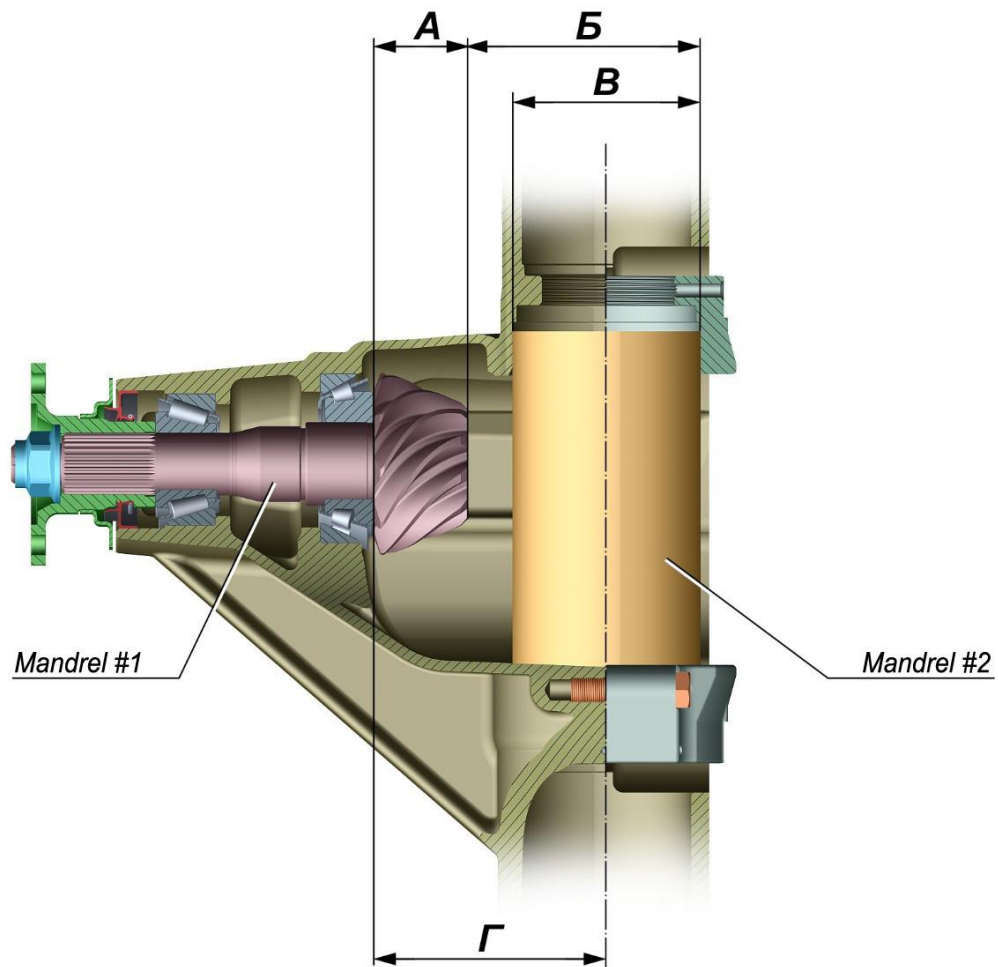

Fig. 3.46. Drive gear position adjustment diagram
- measure dimension B (Fig. 3.46) from the rear face of mandrel #1 to mandrel #2;